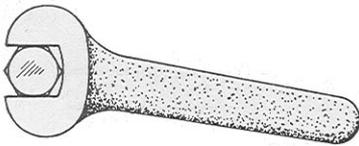

Fig. 9. Wrench Making a Good Fit
1. The wrench should fit closely, Fig. 9. A loose fitting wrench will round the corners of the bolt and slip badly, resulting in hand injuries.